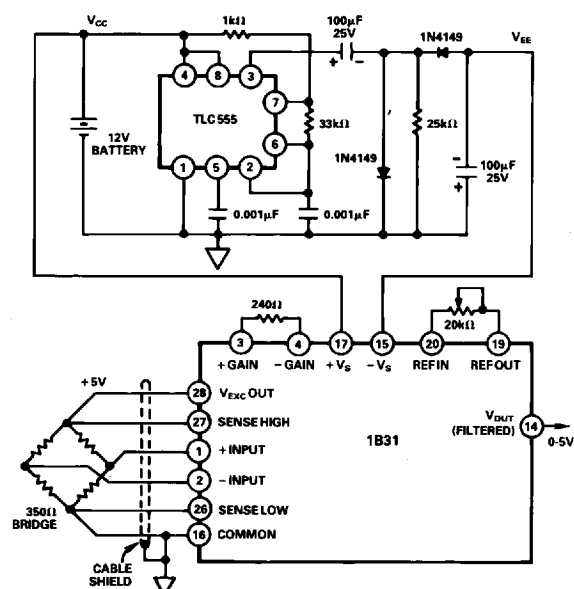

Figure 18. Negative Supply Generation for 1B31
**Mobile Transducer Application:** The small size and reliability of the 1B31 make it an ideal choice for mobile applications. Since the 1B31 requires a negative supply, one possible solution for its generation is shown in Figure 18. The positive voltage of a +12V battery is used to drive a CMOS TLC555 oscillator with a typical supply current of  $360\mu\text{A}$ . The output is a square wave that is rectified by the diodes and filtered to provide a  $-9\text{V}$  supply. Excitation voltage should be equal to or less than +9V for adequate headroom for the 1B31 voltage regulator.